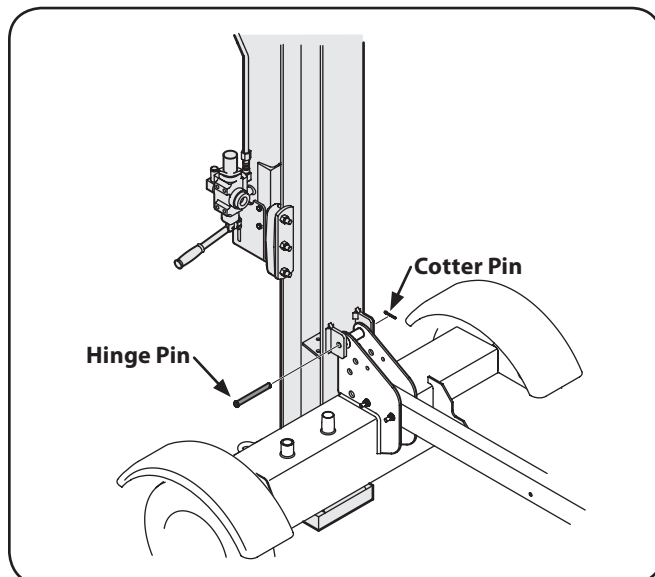

Figure 3-6
2. Remove the hinge pin and cotter pin from the welded brackets on the beam assembly and move the reservoir tank assembly in position against the beam. See Fig. 3-6.
3. Lift up on the tongue assembly until the holes are aligned and insert the hinge pin just removed through brackets on beam and reservoir tank assembly. See Fig. 3-6.
4. Secure the hinge pin with the cotter pin by bending the ends of the pin. See Fig. 3-6.